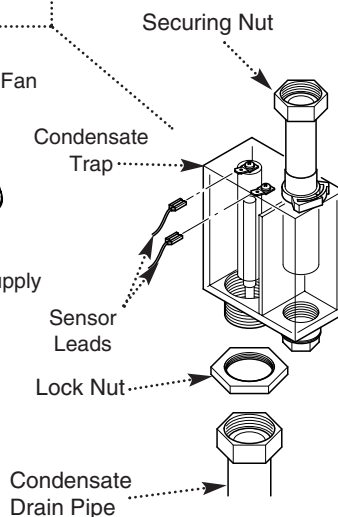

Fig. 43
- f) Undo the condensate trap securing nut, lock nut and the condensate drain pipe. Remove the condensate trap and disconnect the sensor leads (Fig. 43).